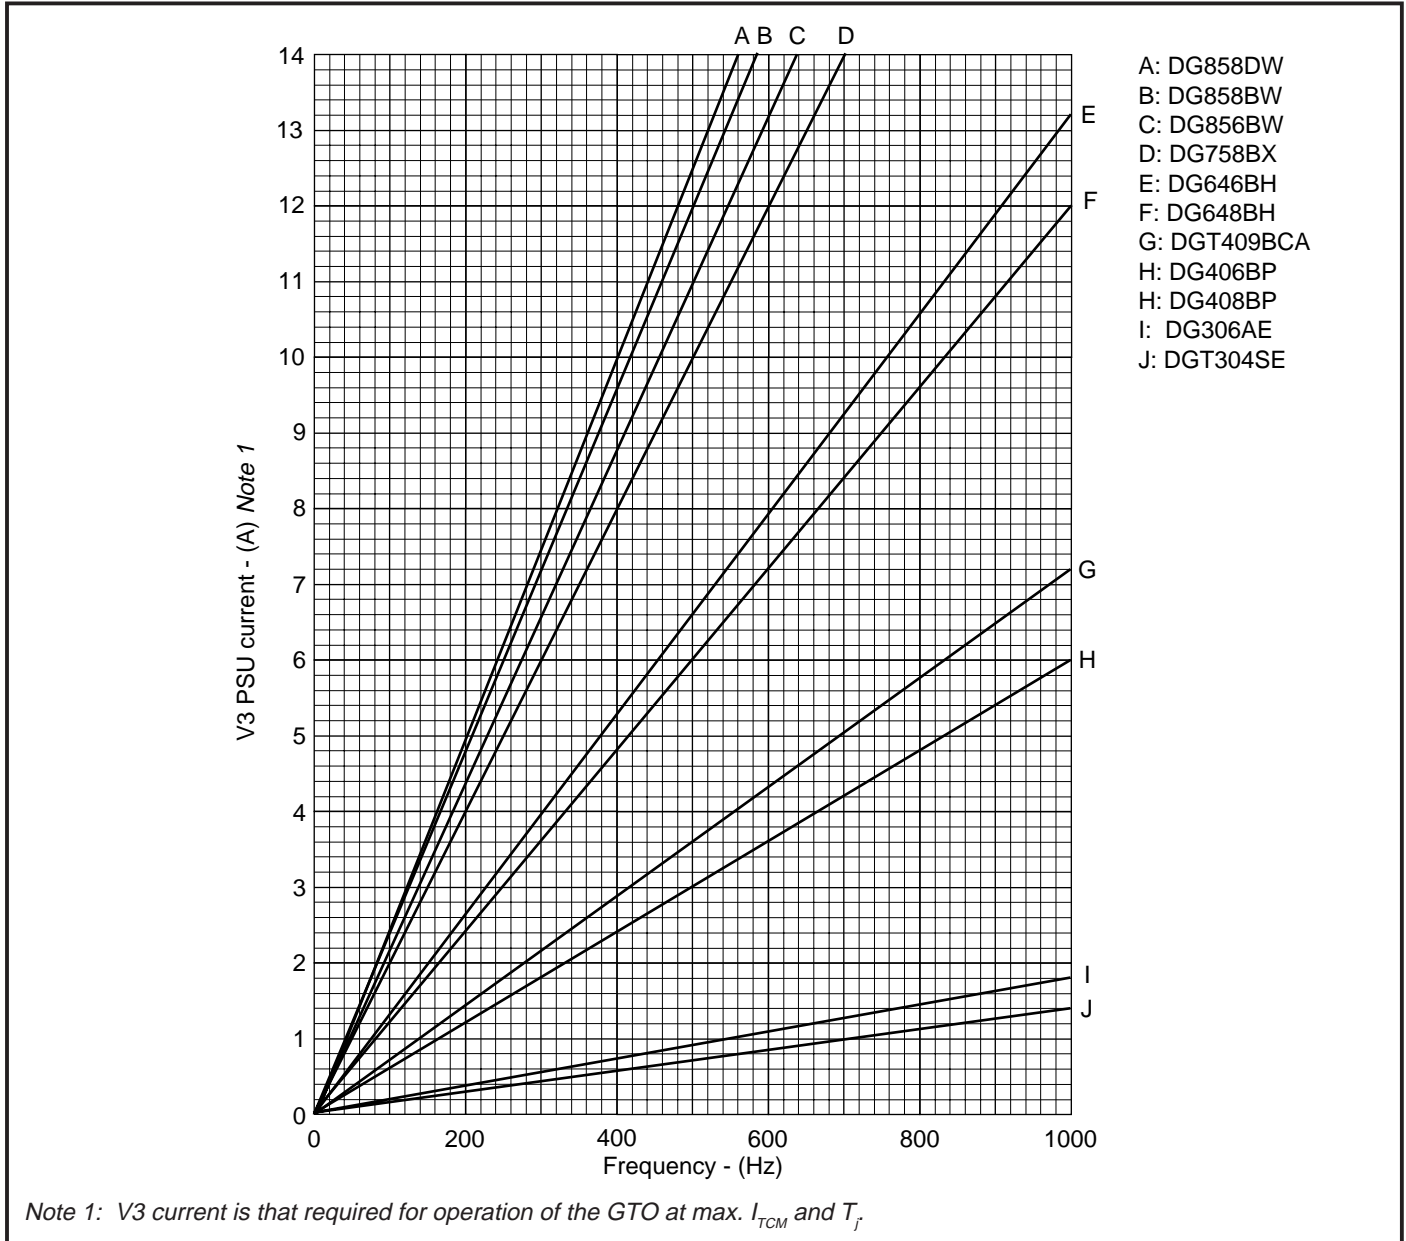

Fig.7 V3 P.S.U. current vs frequency
3. Read the maximum V3 supply current from Fig.7 (See page 6). If the GTO is to be operated at lower current than the I_{TCM} and/ or $T_{vj(max)}$ then the V3 power supply current can be calculated as follows:-